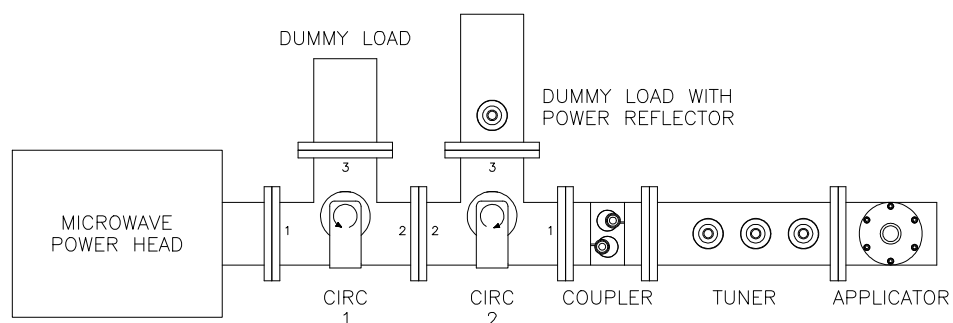

Figure 1, Typical waveguide configuration using the dummy load with power reflector to vary microwave power delivered to the applicator.
Figure 1 below illustrates a common configuration in which the dummy load with power reflector is used in conjunction with a 3-port circulator to vary the level of microwave power delivered to the process.
1. Connect the dummy load with power reflector as shown in Figure 1. Adjust the power reflector stub to the fully counterclockwise (fully extracted) position.